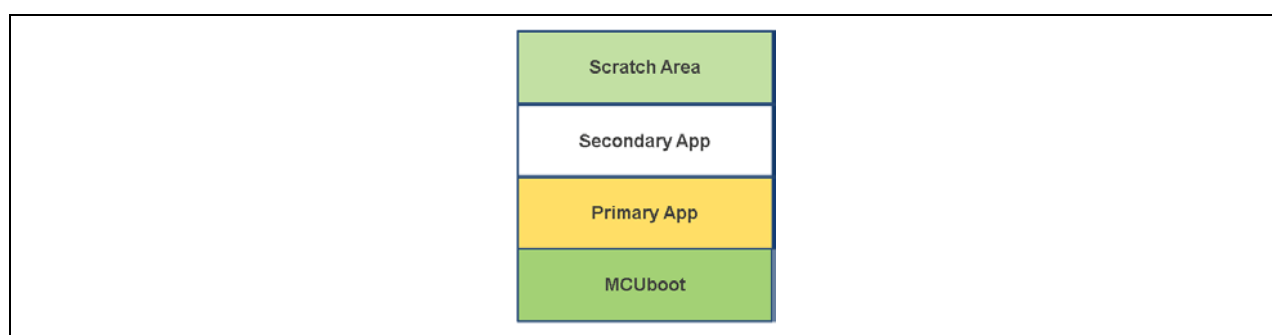
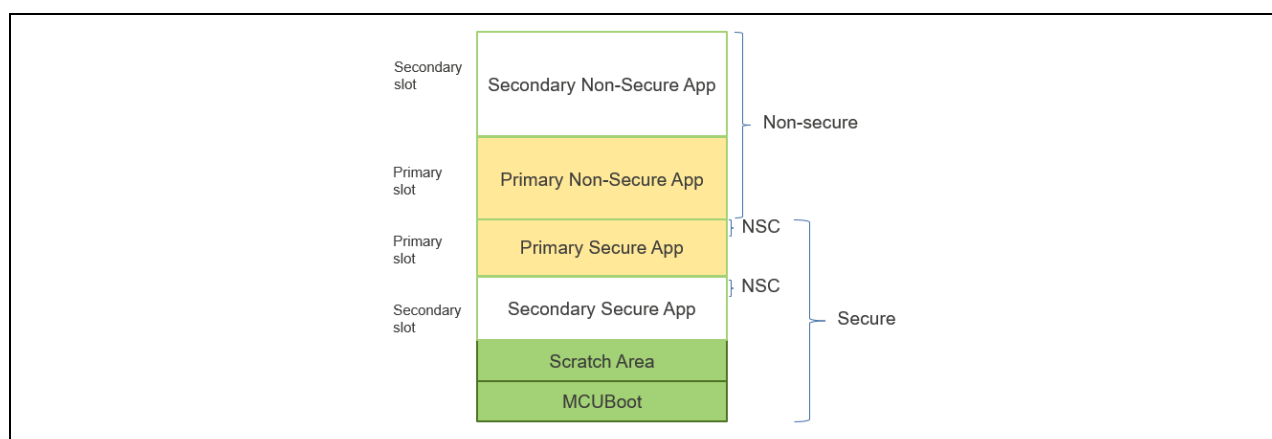

Figure 1. Single Image MCUboot Memory Flash Map
Figure 2. Two-Image MCUboot Module Memory Map (TrustZone)
For applications using MCUboot, the MCU memory is separated into MCUboot, Primary App, Secondary App, and the Scratch Area. Figure 1 is an example of the single-image MCUboot memory map. For more information on the MCUboot memory layout, refer to the Flash Map section of the MCUboot website.
For single-image projects, refer to Figure 1 from section 1.2.1 to see the default memory map layout. For applications with two separately updateable images, such as TrustZone applications where the Secure and Non-Secure images can be updated separately, the default memory map layout is shown in Figure 2.
- Develop the bootloader and analyze the MCU memory resource allocation needed for the bootloader and the application. The bootloader memory usage is influenced by the application image update mode, signature type, and whether to validate the Primary Image. The bootloader maintains a memory map of all the different images shown in Figure 1 and Figure 2.